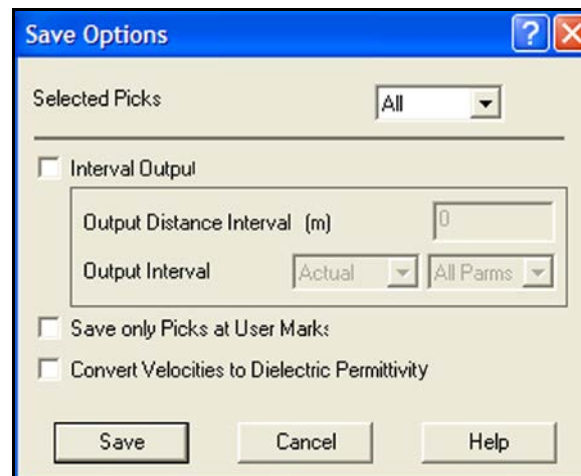

Figure 82: Save Options dialog box.
- Save Options, if selected, displays the dialog box shown in Figure 82.
- The other Output Interval Options are average, minimum, maximum. These options apply to All parameters, Depth, Amplitude, Velocity, or Time. For certain combinations of Selected Picks, Output and interval options the Output parameters box will be disabled, as shown in Figure 82.
One more Output Option example: Suppose the pavement engineer needed to know the average pavement thickness over 10 meter intervals. The options in Figure 82 should be set to: